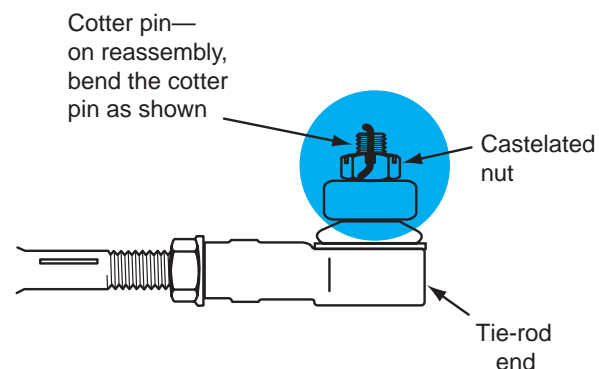

Figure 13-23 Proper installation of cotter pin in the tie-rod end.
4. Install the cotter pin in the nut and tie-rod end pin openings, and bend one leg of the cotter pin downward over the nut. Bend the other cotter pin leg upward over the top of the tie-rod end pin (Figure 13-23).